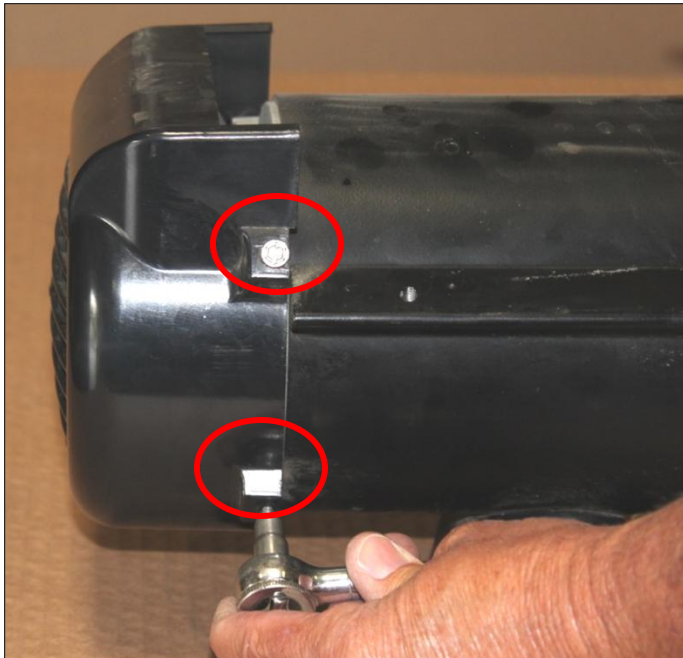

Figure 75
11. Remove the two screws on each side of the fan shroud as shown (fig 75).